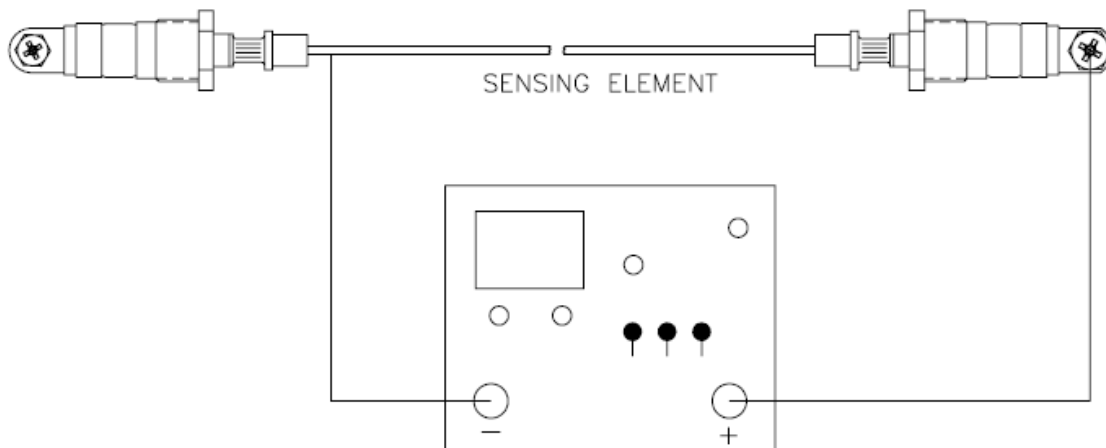

Figure 6 - Megohmmeter Connection
- a. Connect the negative megohmmeter lead to the sensing element shell. See Figure 6